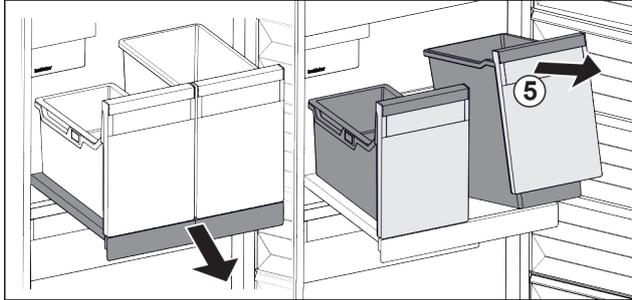

Fig. 18
- ▶ Lift the container Fig. 18 (5) at the front.